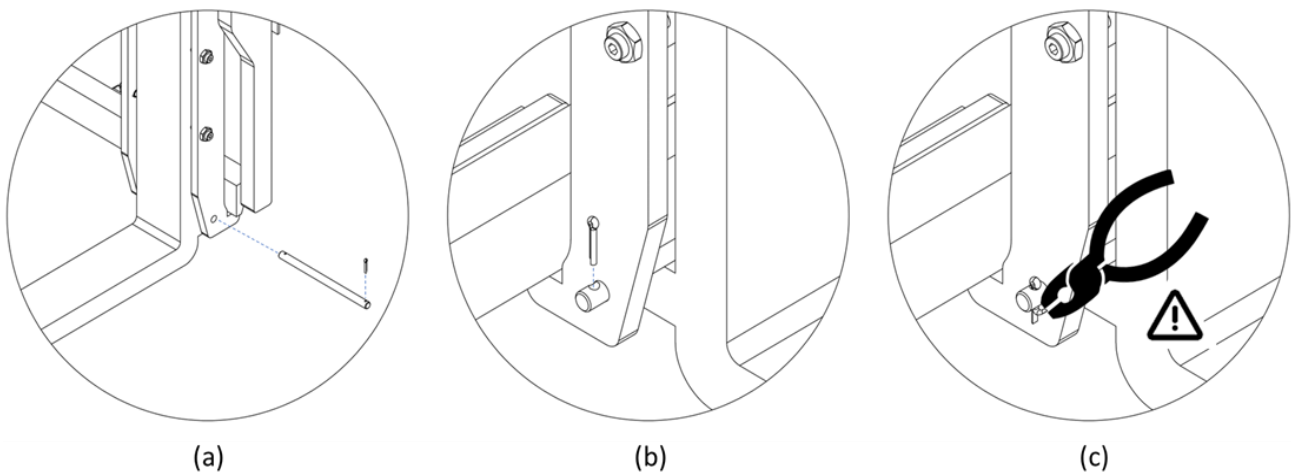

Figure 12
1. Insert the fastening pins of the lower fork couplings and check that fork coupling is locked by the pin itself (see *Figure 12, a*).
2. Insert the safety cotter pin into the holes on both sides of the pin (see *Figure 12, b*).
3. Using pliers, bend one of the 2 sides of both cotter pins and ensure that they cannot escape (*Figure 12, c*).